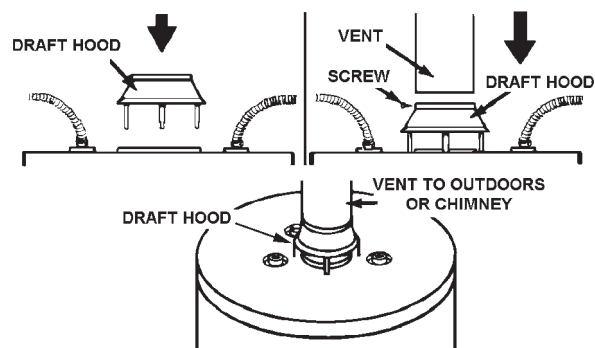

FIGURE 18.
- Place the vent pipe over the draft hood. With the vent pipe in position, drill a small hole through both the vent pipe and draft hood. Secure them together with a sheet metal screw, see Figure 18.